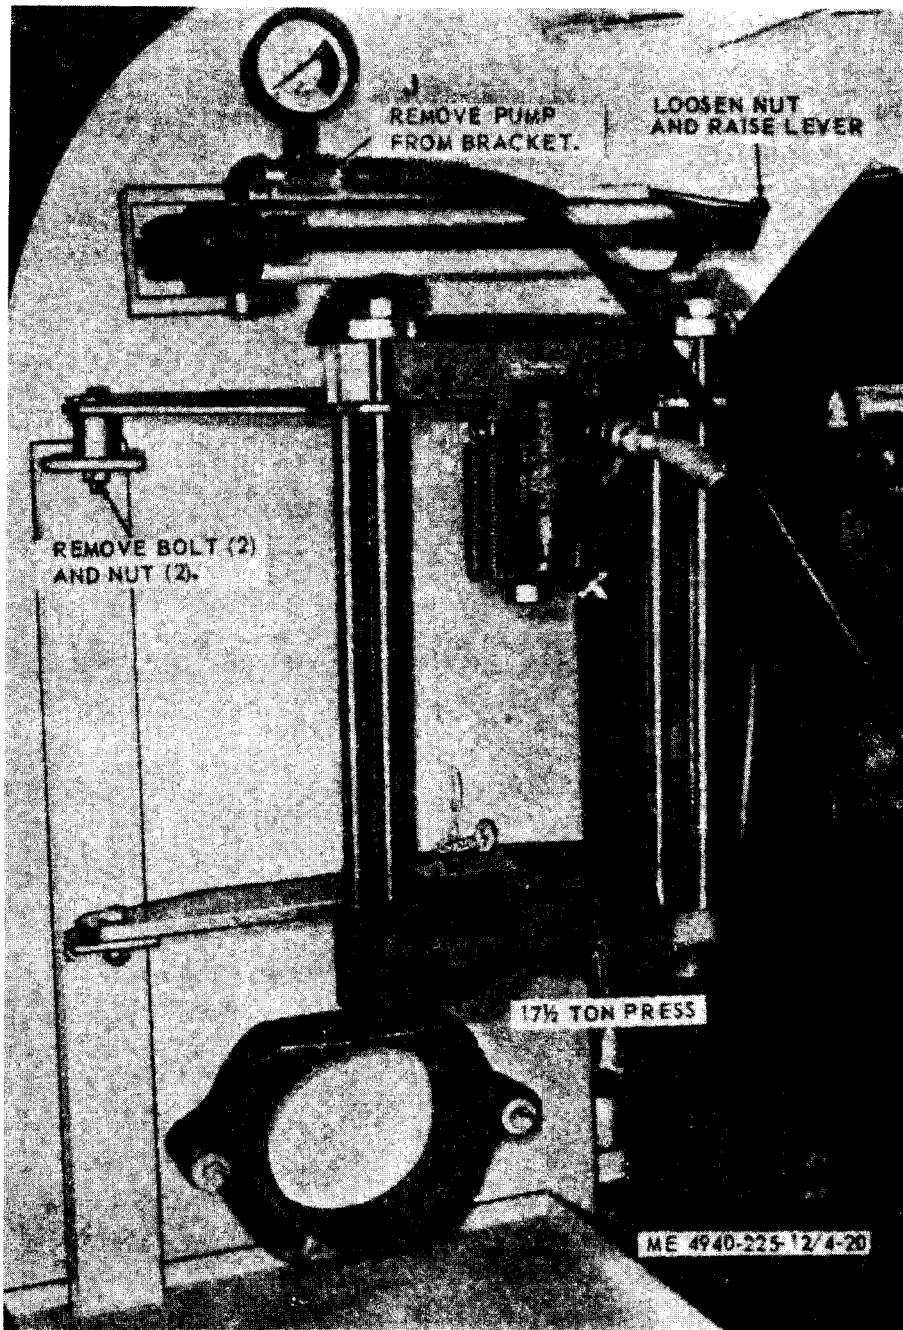

Figure 4-20. 17 1/2-ton press frame. removal and installation.
a. Removal. Remove the press frame as illustrated in figure 4-20.
b. Installation. Install the press frame as illustrated in figure 4-20.